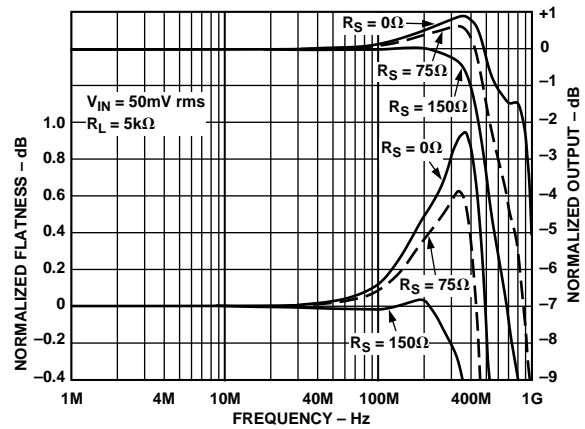

Figure 20. Frequency Response vs. Input Series Resistance
- 5A resistor (RS) placed in series with the mux inputs serves to optimize 0.1 dB flatness, but is not required. Increasing output capacitance will increase peaking and reduce bandwidth (see Figure 20.)
Each open-loop buffer is implemented as a complementary emitter follower that provides high input impedance, symmetric slew rate and load drive, and high output-to-input isolation due to its  $\beta^2$  current gain. The selected buffer is biased ON by fast switched current sources that allow the buffer to turn on quickly. Dedicated flatness circuits, combined with the open-loop architecture of the AD8180 and AD8182, keep peaking low (typically < 1 dB) when driving high capacitive loads, without the need for external series resistors at the input or output. If better flatness response is desired, an input series resistance ( $R_S$ ) may be used (refer to Figure 20), although this will increase crosstalk. The dc gain of the AD8180 and AD8182 is almost independent of load